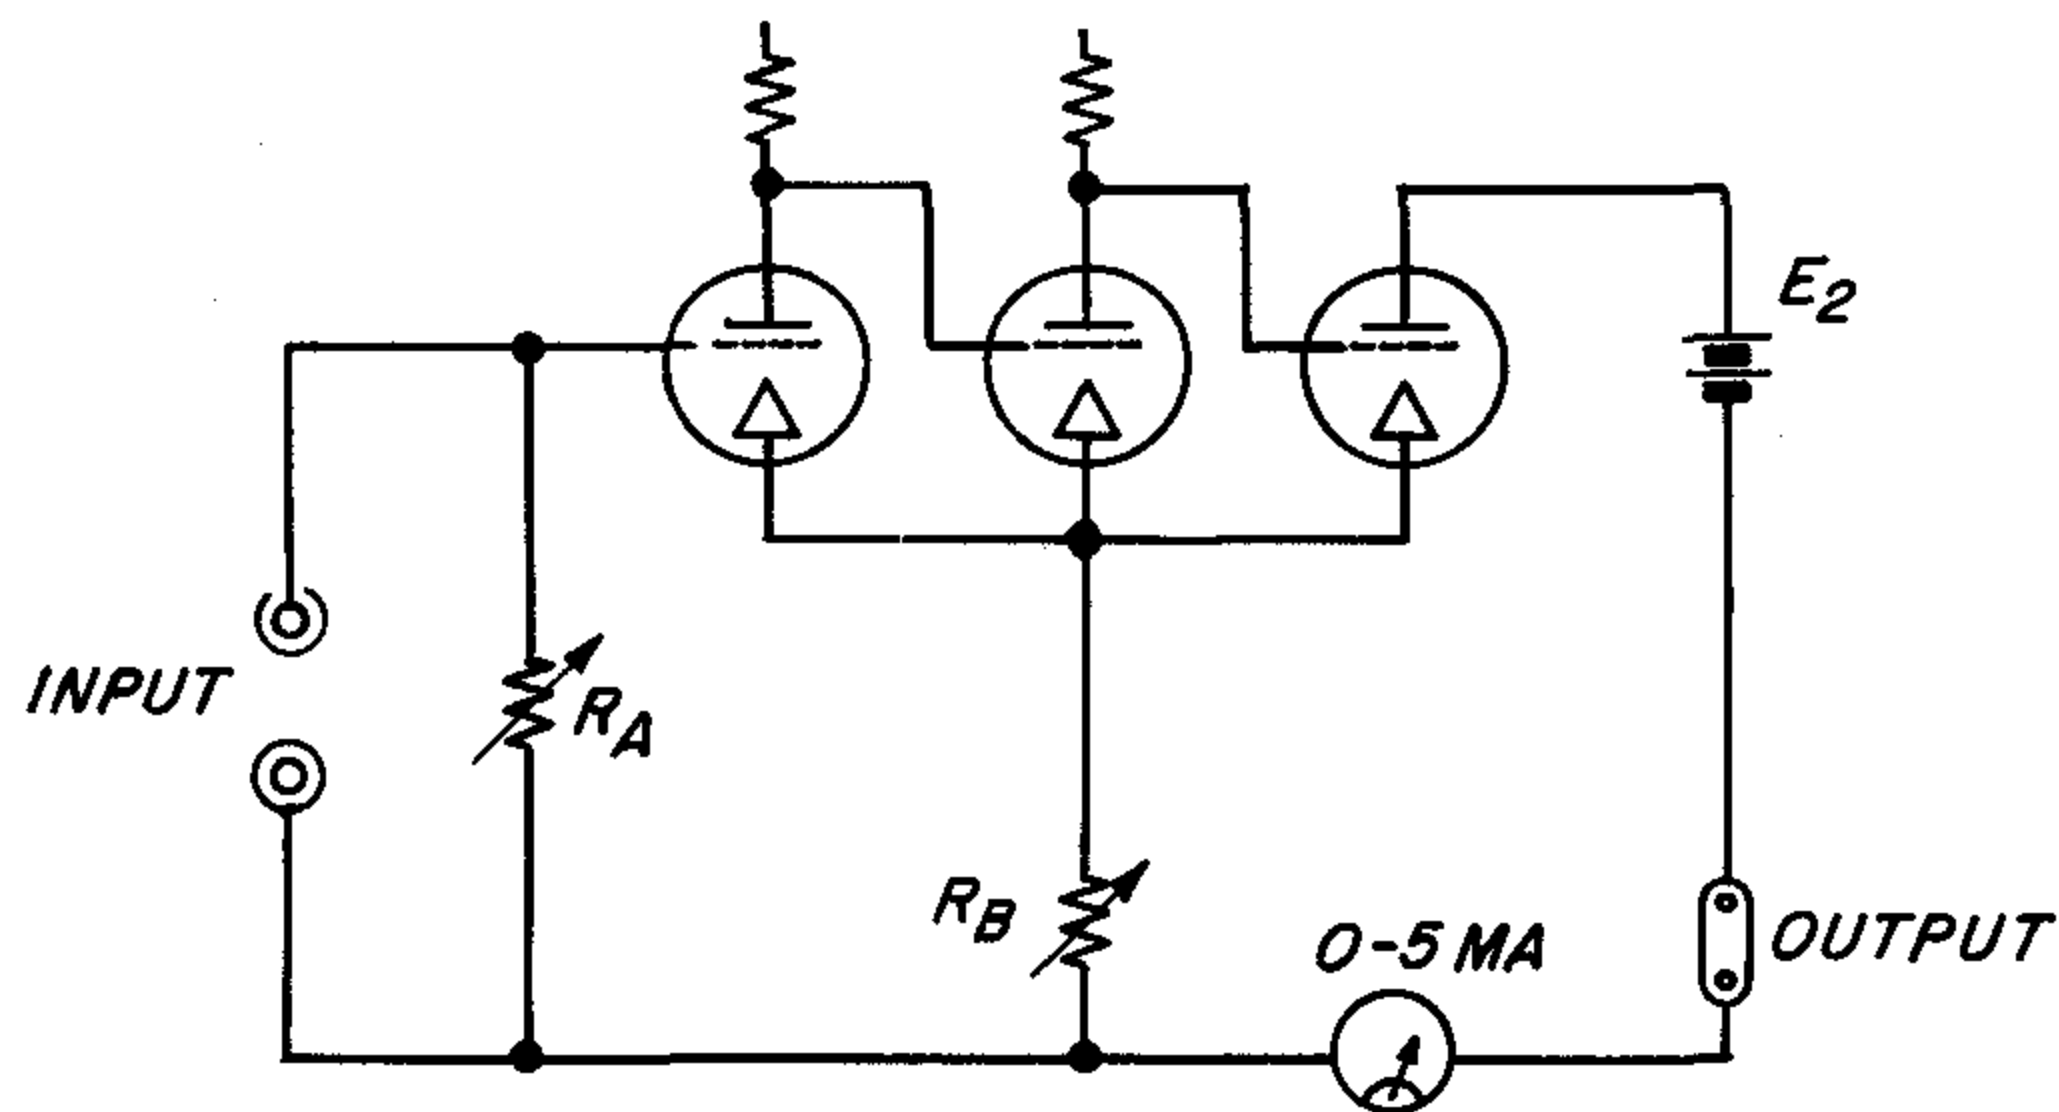

Figure 2. Cathode-Follower Circuit.
2.1.1 The amplifier circuit is essentially a cathode-follower, where the "tube" is a three-stage, direct-coupled amplifier. (See Figure 2.) The net transconductance is so great that the voltage change across the cathode resistor is essentially the same as the voltage applied to the input terminals. The panel meter reads the current change in the cathode resistor (R_B) and is calibrated to read voltage directly. Different ranges are obtained by the selection of different values for R_B . The meter zero is the same for all ranges. The full-scale ranges are 30, 100, and 300 millivolts, 1, 3, and 10 volts. The corresponding R_B values are 6, 20, 60, 200, 600, and 2000 ohms.
2.1.2 Because the first stage is an electrometer tube, the grid current is small (about 10^{-14} amperes). The glass envelope of the tube has been treated with General Electric Dri-Film SC-87, and all other insulation of the input circuit is of teflon. As a consequence, the input resistance is determined by the setting of the INPUT RESISTANCE switch (R_A , Figure 2), even under conditions of high humidity.